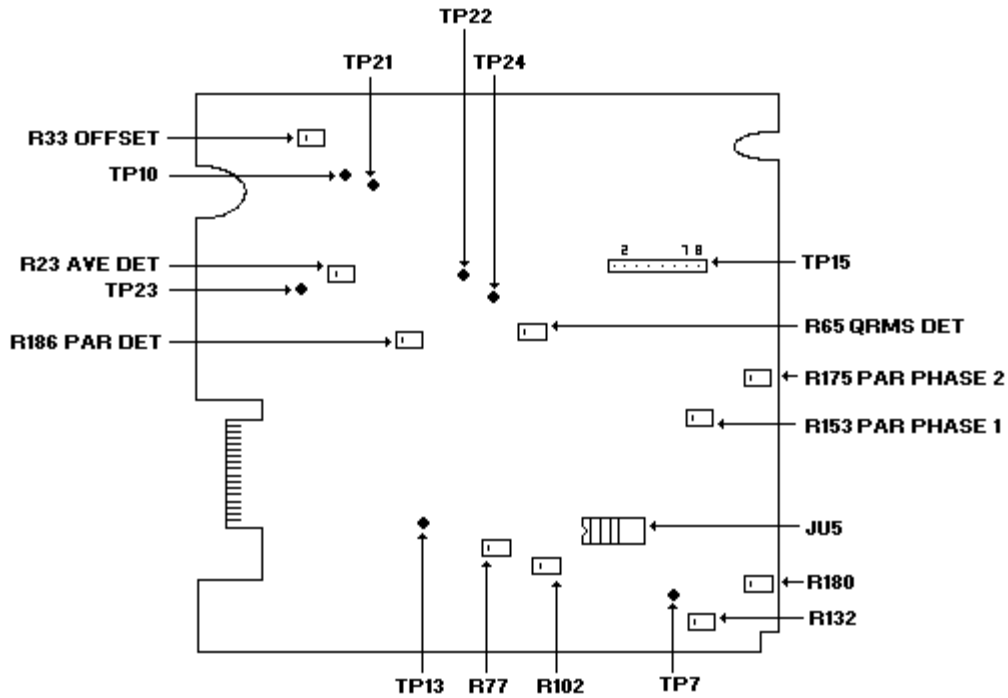

Figure 1. Receiver board A3 (A13) - adjustment locations.
- (1) Press calibrator **RESET** key and disconnect from TI.
- (2) Connect left **TRMT/RCV 310** to right **RCV/TRMT 310** using a T-type connector.
- (3) Connect multimeter **Input HI** and **LO** to T-type connector.
- (4) Press **IMPULSE NOISE DISPLAY F2 1004** key. Right display will indicate 1004 Hz.
- (5) Adjust **OUTPUT LEVEL** control until multimeter indicates about 1.0 V ac. Record exact value.
- (6) Connect multimeter **Input HI** to TP13 (fig. 1) and **LO** to ground. Adjust R77 (fig. 1) until multimeter indicates value recorded in (5) above (R).
- (7) Disconnect left **TRMT/RCV 310** from right **RCV/TRMT 310**.
- (8) Press **MEASUREMENT MEAS** key to select **NOISE** and **DISPLAY** key to select **TRMT**. Connect jumpers from TP10 to TP21 and from TP22 to TP23 (fig. 1).
- (9) Connect multimeter **Input HI** to TP24 (fig. 1). If multimeter does not indicate 0 V dc ± 0.3 mV dc, adjust R33 **OFFSET** (fig. 1) for 0 V dc. Disconnect jumpers and multimeter (R).
- (10) Set calibrator for a .77 V, 1.004 kHz output. Do not connect to TI at this time.
- (11) Press **DISPLAY** key to select **RCV** and **MEASUREMENT MEAS** key to select **LEVEL FREQUENCY**.
- (12) Press **NOR** and **SET UP RCV 600 Ω** pushbuttons.
- (13) Release **SET UP RCV BRG**, **RCV HOLD**, **TRMT DIAL**, and **TRMT HOLD** pushbuttons (out).
(14) Connect calibrator (preset in (10) above) **OUTPUT HI** and **LO** to TI right **RCV/TRMT 310**. Adjust R23 AVE DET (fig. 1) for > 0.0 dBm indication on TI left display, then reduce until indication just changes to -0.1 dBm (R).
(15) Set calibrator amplitude to .7795 V. TI left display will indicate +0.1 dBm, if not, repeat (14) above at .77 V.
(16) Press **MEASUREMENT MEAS** key to select **NOISE**.
(17) Press **FILTER FILTER** key to select **15 kHz FLAT**.
(18) Set calibrator amplitude to .727 V.
(19) Adjust R65 QRMS DET (fig. 1) until TI left display indicates 90 dBm then reduce level until indication just changes to a stable 89 dBm (R).
(20) Set calibrator amplitude to .826 V. TI left display will indicate 91 dBm, if not repeat (18) and (19) above.
- (2) Connect left **TRMT/RCV 310** to right **RCV/TRMT 310**.
- (3) Press **DISPLAY** key to select **TRMT** and **MEASUREMENT MEAS** key to select **LEVEL FREQUENCY**.
- (4) Press **←**, **STEP UP**, **STEP DOWN**, and **→** keys until TI right display indicates 995 Hz. Adjust **OUTPUT LEVEL** control until left display indicates 0.0 dBm.
- (5) Press **DISPLAY** key to select **RCV**.
- (6) Move shorting bars on JU5 (fig. 1) to right (shorting pins 5 to 12, 6 to 11, 7 to 10, and 8 to 9).
- (7) Connect oscilloscope **CH 1** to pin 1 of JU5 (fig. 1).
- (8) Adjust R102 (fig. 1) for minimum ac signal on oscilloscope (R).
- (9) Press **←**, **STEP UP**, **STEP DOWN**, and **→** keys until TI right display indicates 1010 Hz.
- (10) Connect oscilloscope **CH 1** to pin 4 of JU5 (fig. 1).
- (11) Adjust R132 (fig. 1) for minimum ac signal on oscilloscope (R).